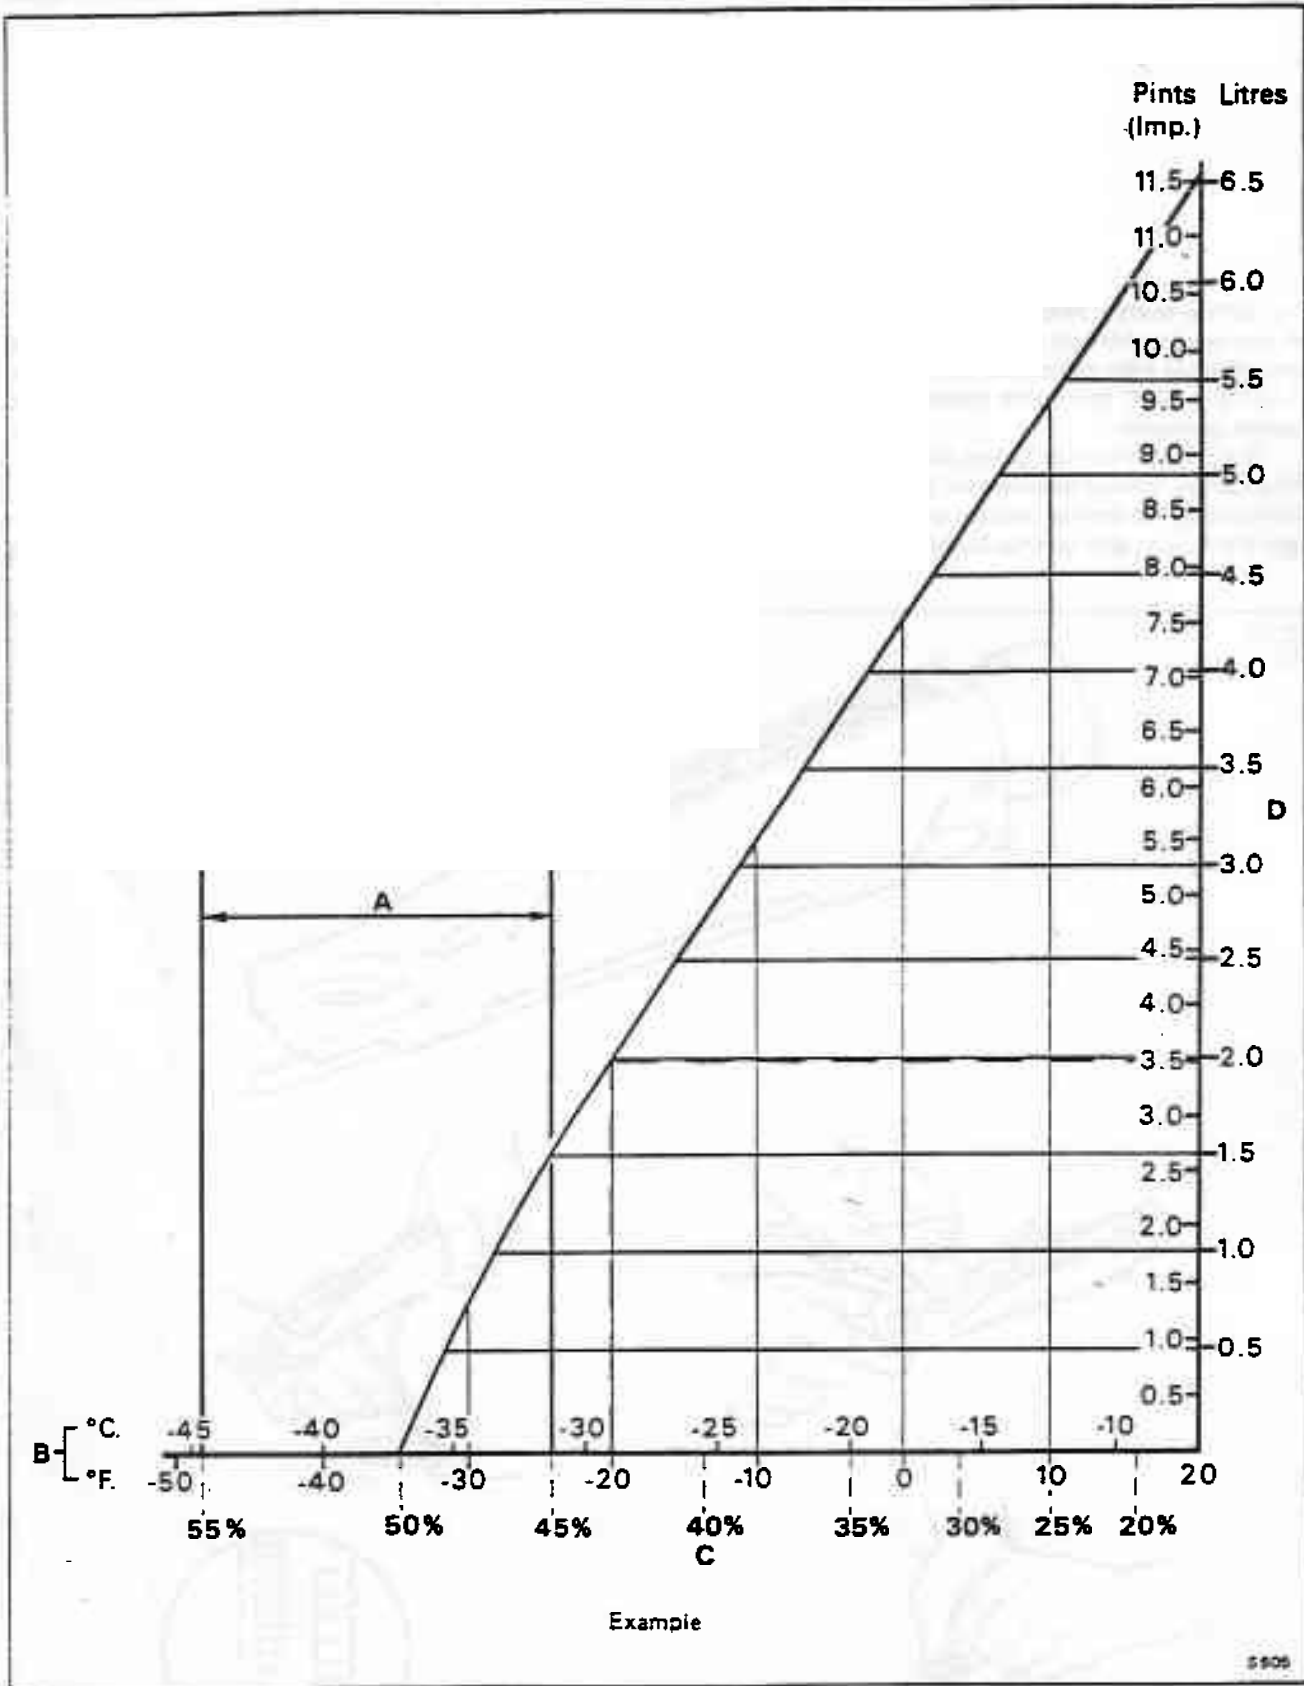

Fig. L5-2 Anti-freeze correction chart to give a 50% solution
11. If the temperature reading is higher than -31°C (-24°F) (further down on the scale) it will be necessary to refer to figure L5-2 and add the appropriate amount of anti-freeze to the system.